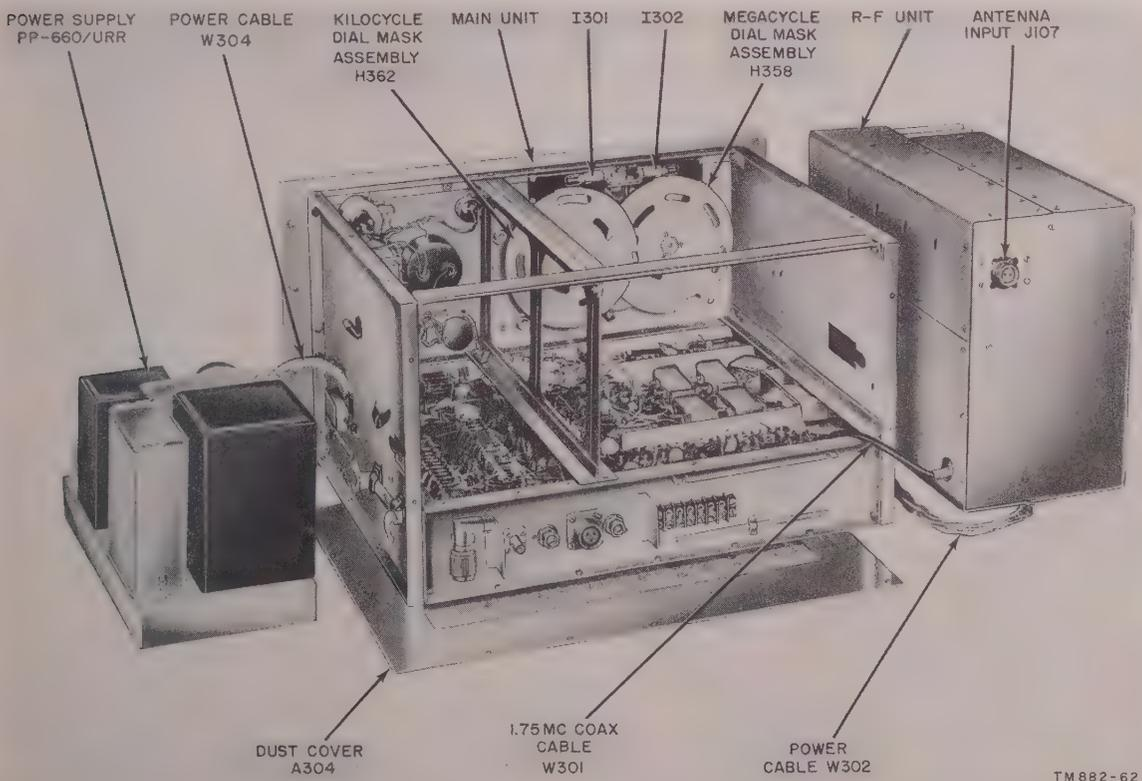

Figure 21. Radio Receiver R-220/URR, rear view, with r-f unit and power supply removed from main unit.
g. Preliminary Disassembly of Main Unit (fig. 21). In order to check tubes and make
f. Remove the r-f unit and power supply unit from the main unit base (fig. 21). Remove dust